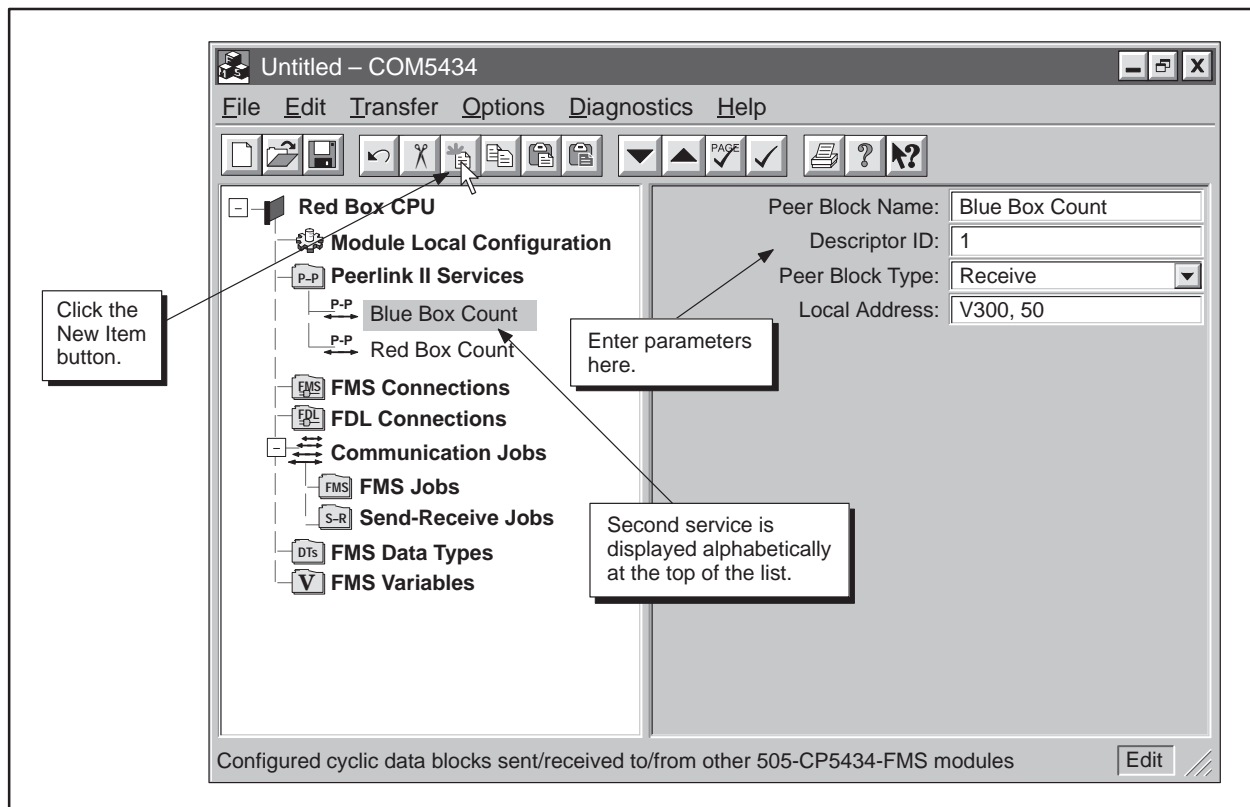

Figure 6-29 Peerlink II Services Example
2. Complete the fields listed below (and shown in Figure 6-29) to configure the Receive service: